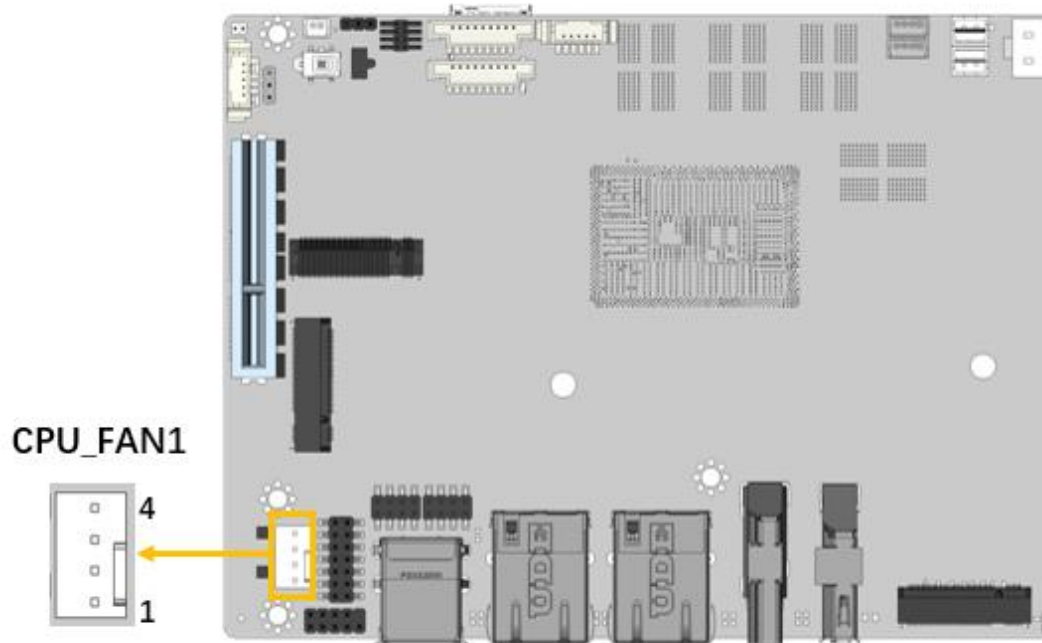

Figure 3-11: Fan Connector Location
- CN Location:** See **Figure 3-11**